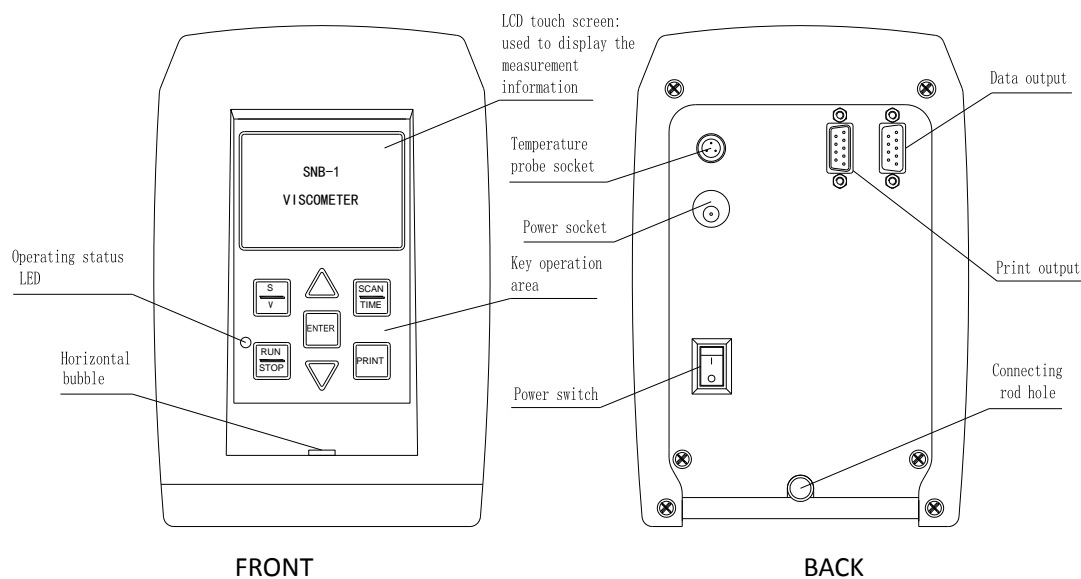

Fig. 7
(2) Ports and sockets at the back of the main machine (Fig. 7)